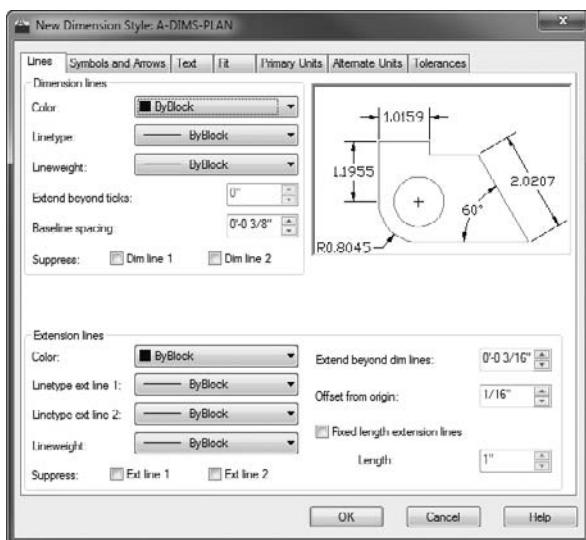

FIGURE 12.5 The New Dimension Style dialog box with A-DIMS-PLAN as the current style and Lines as the active tab
- 4.** Click the Continue button. The Create New Dimension Style dialog box is replaced by the New Dimension Style: A-DIMS-PLAN dialog box (see Figure 12.5).